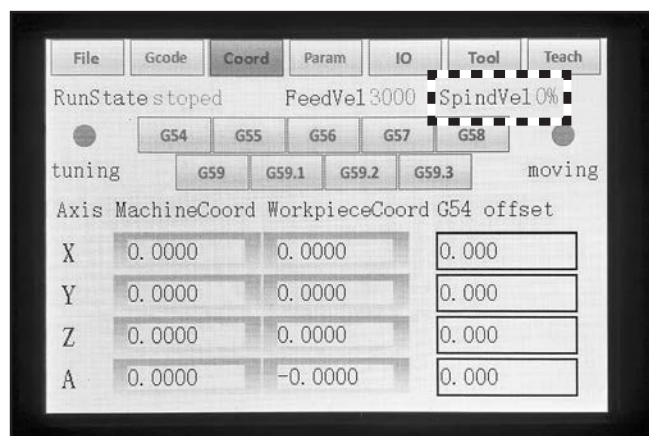

Figure 28. Location of SpindVel status.
4. Press and hold one of the enable buttons on either side of DSP controller and rotate MPG wheel counterclockwise until SpindVel (Spindle Velocity) value in upper right corner shows 0% (see **Figure 28**).